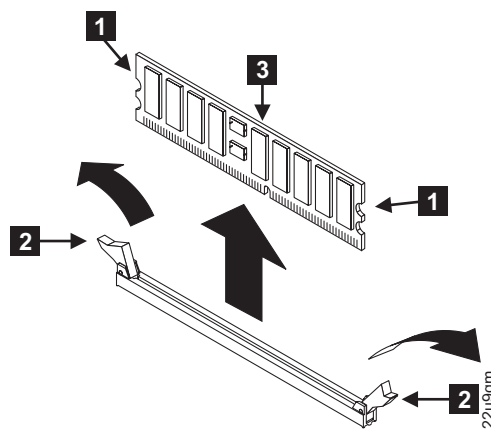

Figure 155. Removing the memory modules
4. Open the clips **2** by pressing them outward, as shown in Figure 155. This action pulls the memory module **3** out of the connector.